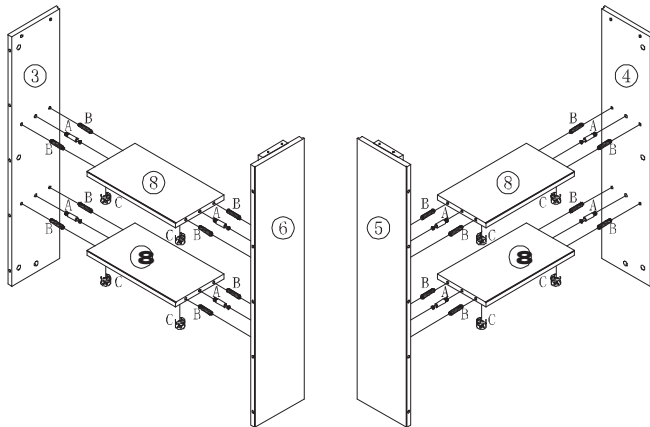

Figure 1
USE GLUE (F) TO FILL 1/4 CORRESPONDING HOLES OF LEFT/RIGHT SIDES OF BOOKCASES (3,4,5,6), INSERT 8PCS CAM-BOLTS (A), 16PCS WOOD DOWELS (B) INTO PREDRILLED HOLES ON INSIDES OF LEFT AND RIGHT SIDES OF BOOKCASES (3,4,5,6) AND FIT INTO CORRESPONDING HOLES ON ENDS OF FIXED SHELVES (8). INSERT 8PCS CAM-LOCKS (1) INTO BIG HOLES ON UNDERSIDE OF FIXED SHELVES (8) WITH SLOT FOR SCREWDRIVER FACING OUTWARD. ROTATE CAM-LOCKS (C) CLOCKWISE TO SECURE CAM-BOLTS (A). PUSH COVERS (E) INTO CAM-LOCKS (C). AS FIGURE 1 SHOWN.